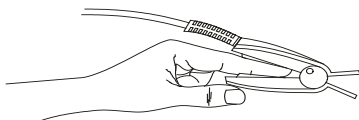

Fig.4.6
- Connect the end of sensor to the device, the other end to the patient measured finger, as shown in Fig.4.6